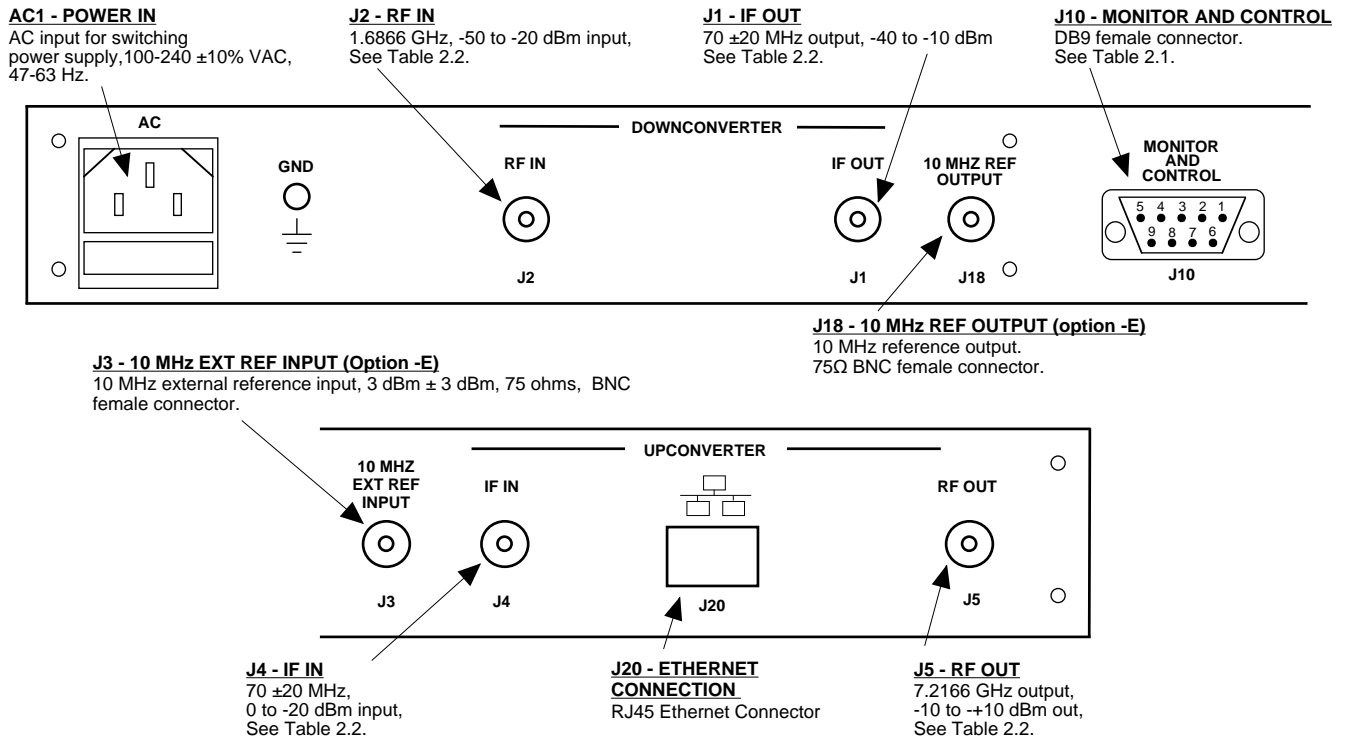

Figure 2.1 Model 2017-7216 Rear Panel I/O's
Figure 2.1 shows the input and output connectors on the rear panel.
- 1.) Connect a 0 dBm to -20 dBm signal to IF In, J4 (Figure 2.1).
- 1.) Connect a -50 dBm to -20 dBm signal to RF In, J2 (Figure 2.1).
When the internal reference mode is selected, the unit's internal 10 MHz reference will become the ‘primary’ source and the unit’s synthesizers will lock to this internal 10 MHz reference. The unit will ignore any external 10 MHz signal present on the external reference input (J3 in figure 2.1). The unit will also buffer the internal 10 MHz signal and provide it on the Reference Out connector (J18 in figure 2.1) at +3 dBm, +/- 3 dB.